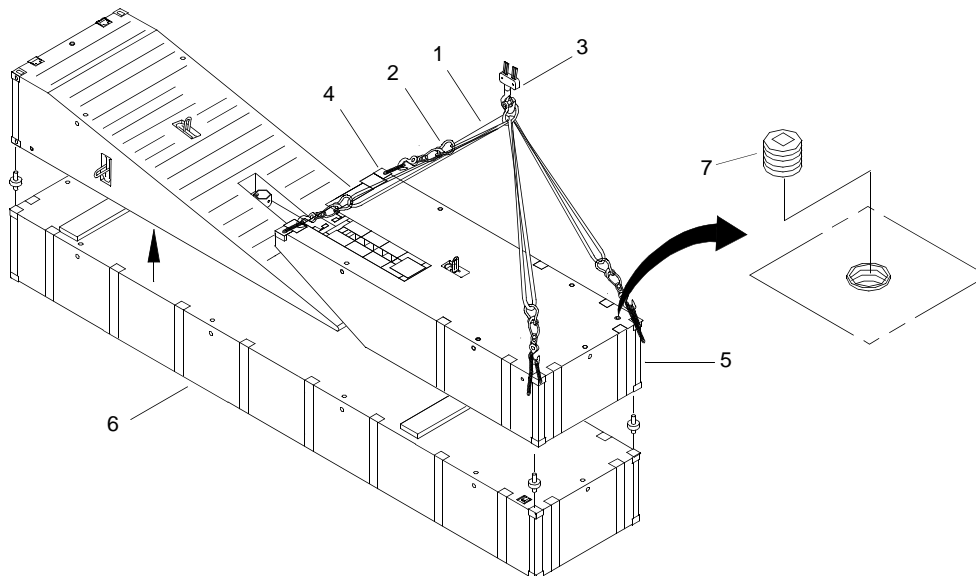

Figure 4. Lifting the End Rake Module
- Attach four 8,400 lb slings (figure 4, item 1) and 36,000 lb adjustable chain slings (figure 4, item 2) from crane (figure 4, item 3) to corners (figure 4, item 4) on end rake module (figure 4, item 5).
- Using slings (figure 4, items 1 and 2) and crane (figure 4, item 3), lift end rake module (figure 4, item 5) from top of center module (figure 4, item 6).
- Remove 36,000 lb adjustable chain slings (figure 4, item 2) from corners (figure 4, item 4) on end rake module (figure 4, item 6).
- Verify drain plugs (figure 4, item 7) on end rake modules (figure 4, item 6) are installed and tight.